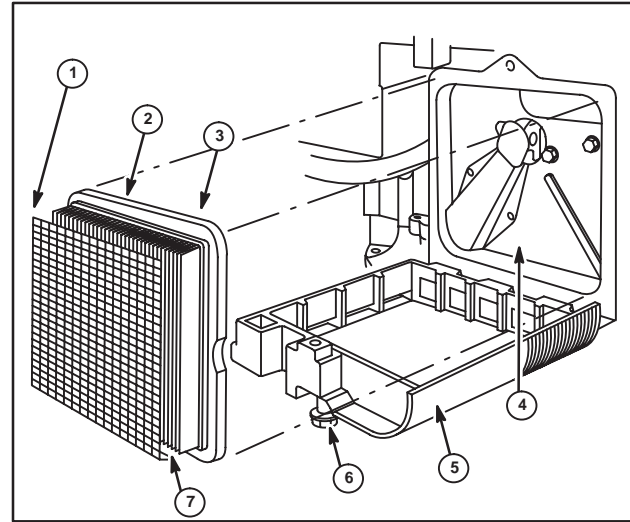
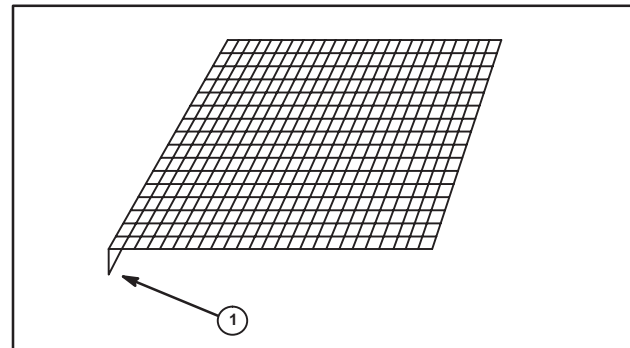

Fig. 7
Fig. 7A
Refer to Figs. 7 through 16 to determine air cleaner type and service procedures.
CARTRIDGE TYPE (Fig. 7)
1. Remove wing nut or loosen screw (6) .Remove cover (5).
2. Carefully remove cartridge (3) to prevent dirt entry into carburetor.
4. Clean or replace cartridge (3) as described on page 11.
5. If equipped with pre-cleaner (1), Fig. 7A, slide off cartridge and clean as described on page 11. Note position of pre-cleaner edge (7), Fig. 7.
6. Assemble so pre-cleaner edge (2) touches base (4) in direction shown in Fig. 7.